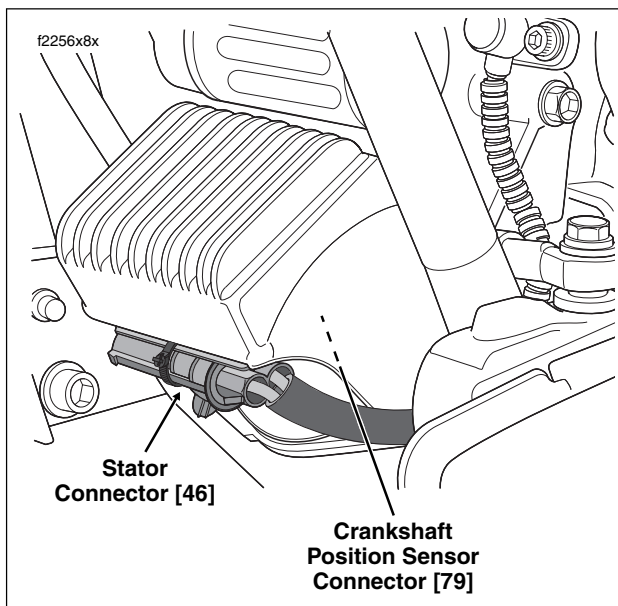

Figure 8-17. Voltage Regulator (Left Side View)
7. Locate stator connector [46], 2-place Packard, fixed to bracket at bottom of voltage regulator. Cut small cable strap and slide connector toward left side of motorcycle to release groove from tongue on bracket. Raise the external latch and separate pin and socket halves. See Figure 8-17.